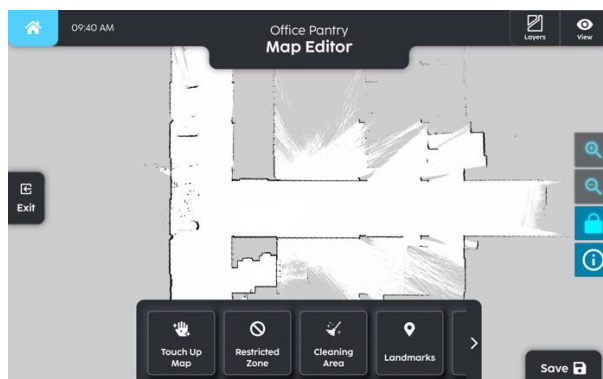

Fig. 9
1. Selecteer 'CLEANING ZONE (REINIGINGSZONE)' op de pagina 'EDIT MAP (KAART BEWERKEN)' (fig. 9).